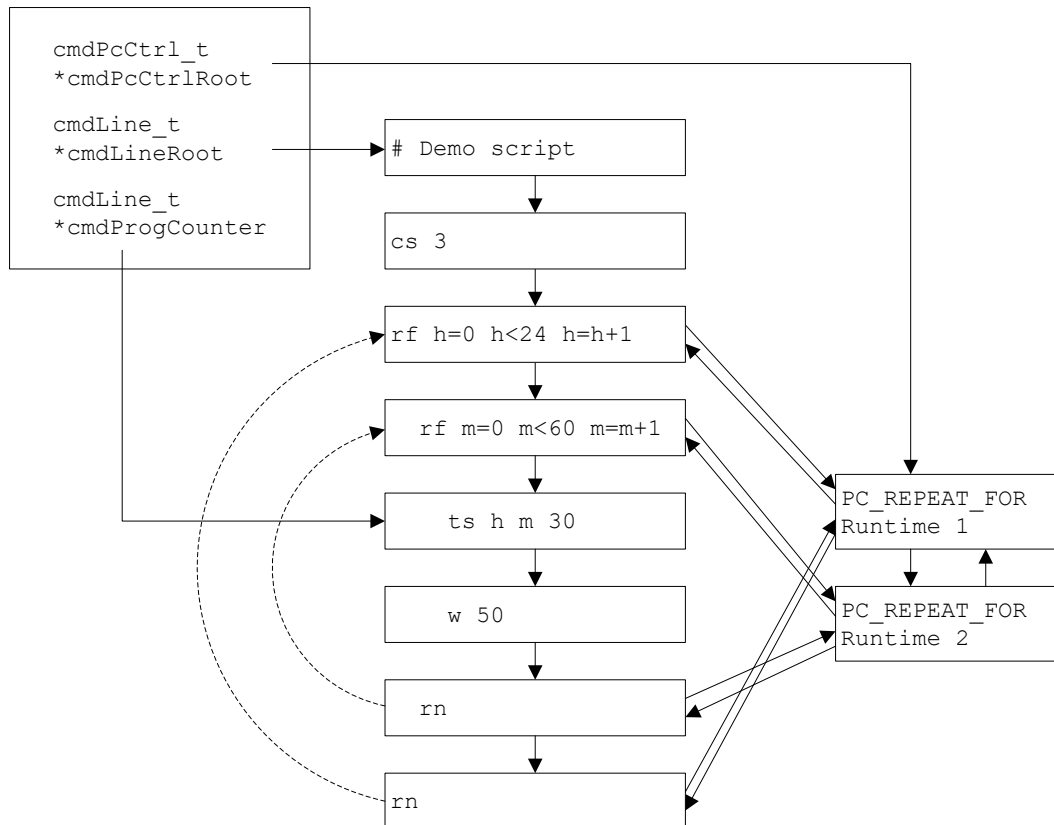

Figure 11: Creating and executing an mchcron command list
Using the demo script of the first method as an example, upon entering the 'e' (execute) command the following will take place as depicted in figure 11 below.
- In `doExecute()` function `cmdListFileLoad()` is called to load the file contents into linked list structures as depicted in figure 11 above. Part of loading the file is matching each line with its associated command dictionary entry. Also, the integrity of the command list is checked by matching each 'rf' command with an 'rn' command. When an unknown command is encountered or repeat commands cannot be matched, file loading will abort.